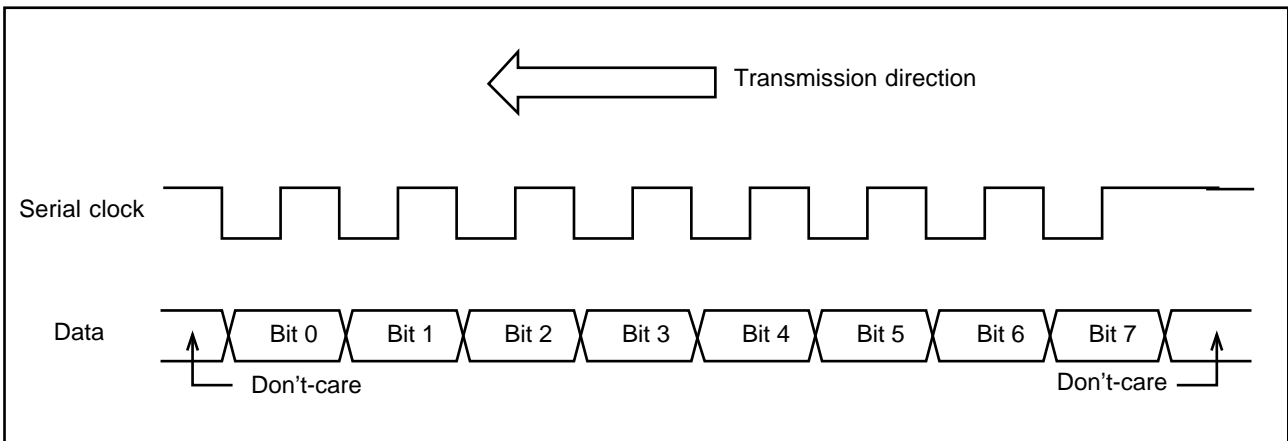

Figure 9-4. Data Format in Synchronous Mode
(1) Data Format: Figure 9-4 shows the communication format used in the synchronous mode. The data length is 8 bits for both the transmit and receive directions. The least significant bit (LSB) is sent and received first. Each bit of transmit data is output from the falling edge of the serial clock pulse to the next falling edge. Received bits are latched on the rising edge of the serial clock pulse.